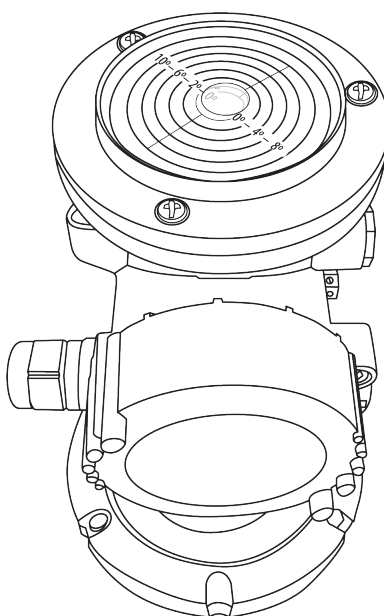

FIGURE 7-3. Campbell Scientific bubble level properly mounted on top of CS475A
- b. Place the bubble level on the top of the CS475A (FIGURE 7-3 (p. 16)).